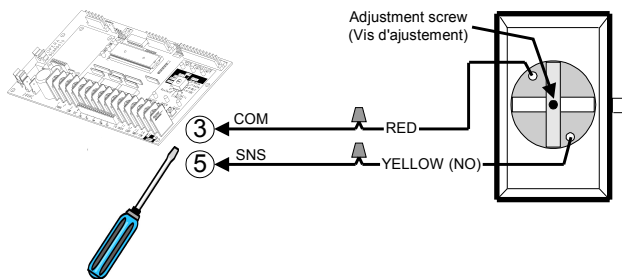
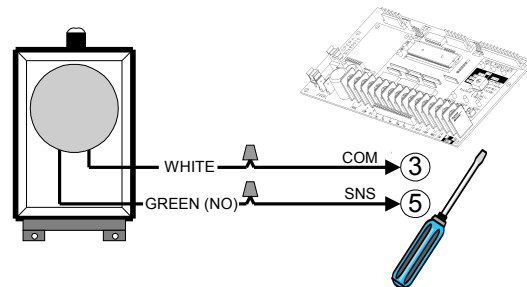

Figure 19 - AIRSWITCH 001 / 007
Figure 20 - AIRSWITCH 009
3. Use a coil cord or take-up reel to connect the air switch to the operator terminals. Install electric wires according to Figure 19 or Figure 20.